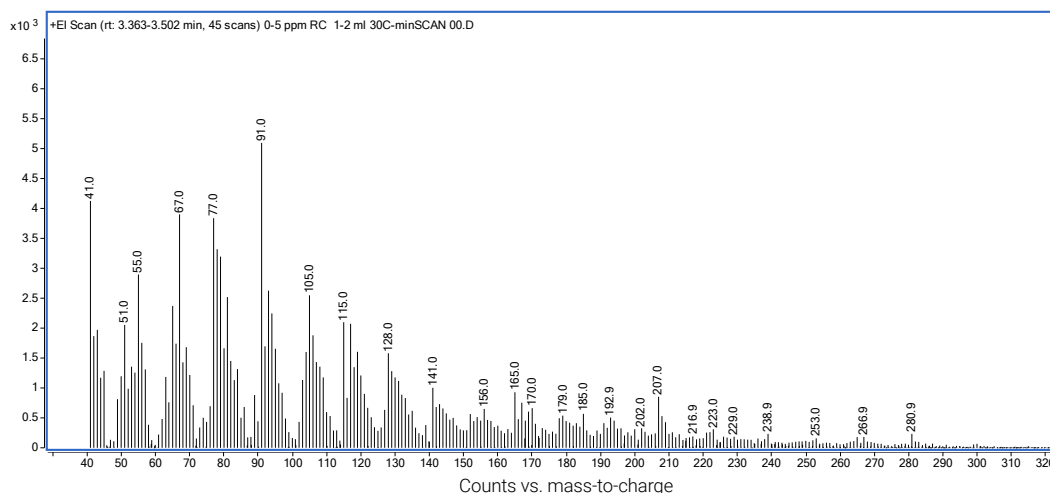

Figure 12. Mass spectrum of background with hydrogen carrier gas.
**Figure 12** shows a typical background spectrum acquired with hydrogen carrier gas. The spectrum has a response at virtually all masses up to 300  $m/z$ . The background is very high at first but should drop gradually as the source bakes out. The high background is presumed to result from active hydrogen species cleaning the interior of the source, as is seen with JetClean. A detailed procedure for reducing the background is discussed in a later section.